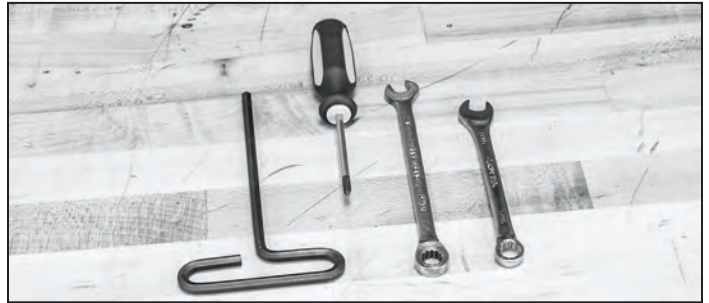

Fig. 1
1. (Fig. 1) Remove the bin and gently turn the Nut Rake frame upside down.